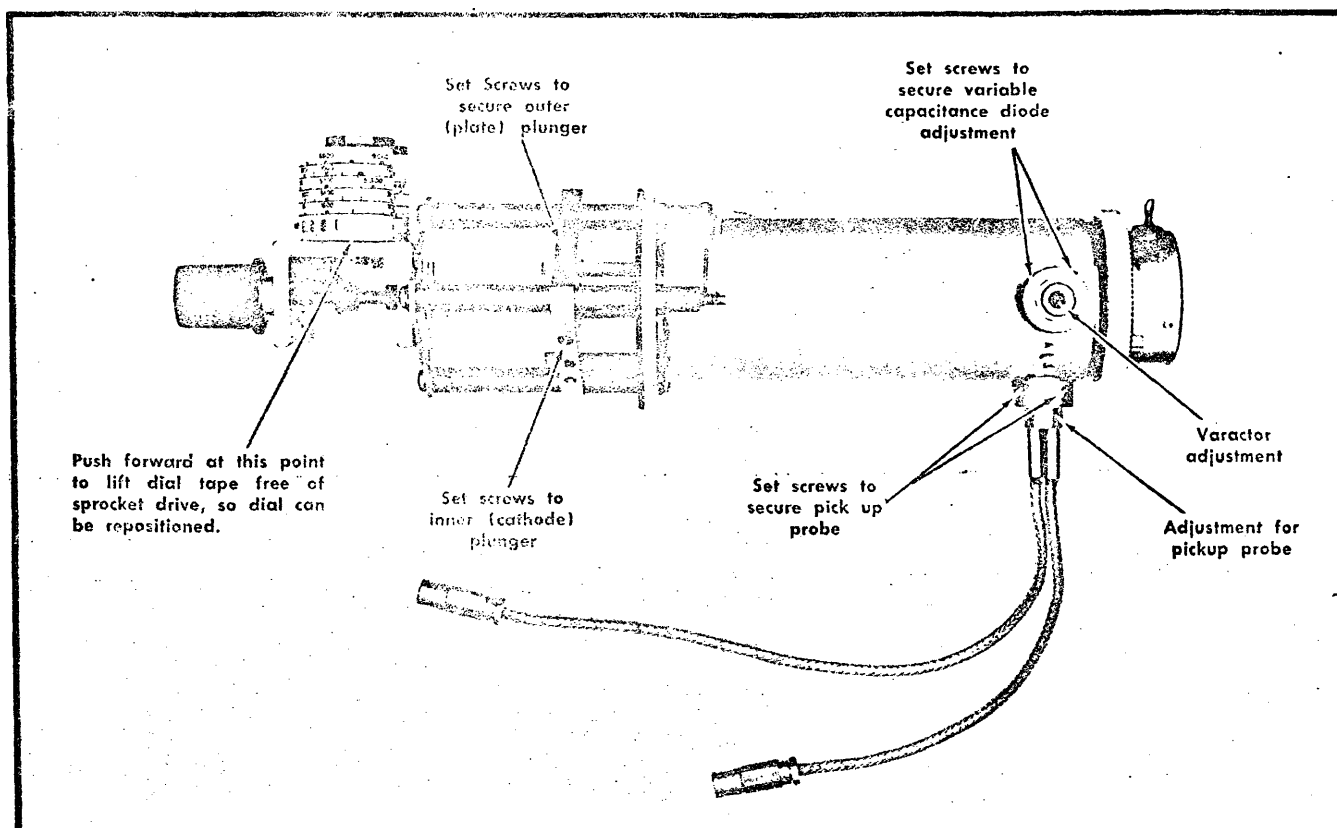

Fig. 6-31. RF oscillator assembly.
1. Assemble the oscilloscope with the dial tape assembly. Install a knob on the tuning shaft. Loosen the Allen set screws on the Varactor adjustment, the pickoff probe and the inner and outer choke plunger. See Fig. 6-31.